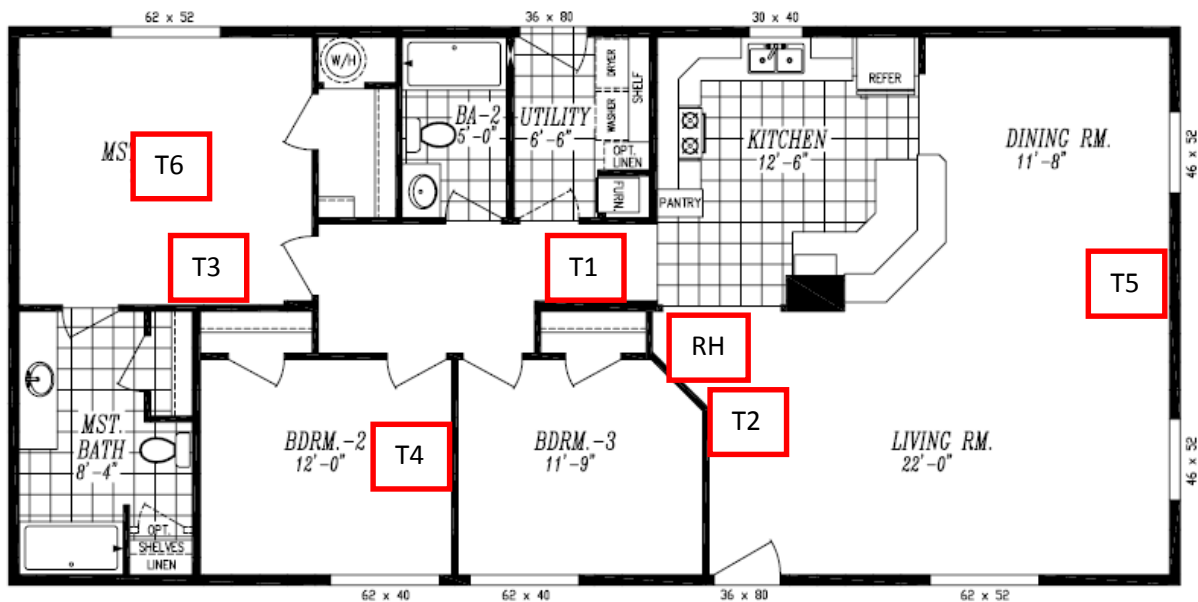

Figure 1. Sample Logger Placement Points – Typical Manufactured Home
- Loggers 1-6 are temperature loggers and placement will be dictated as described in Table 1 and shown in Figure 1.
- Logger 7 is the relative humidity (RH) logger and this should be installed in the main living space served by the DHP.